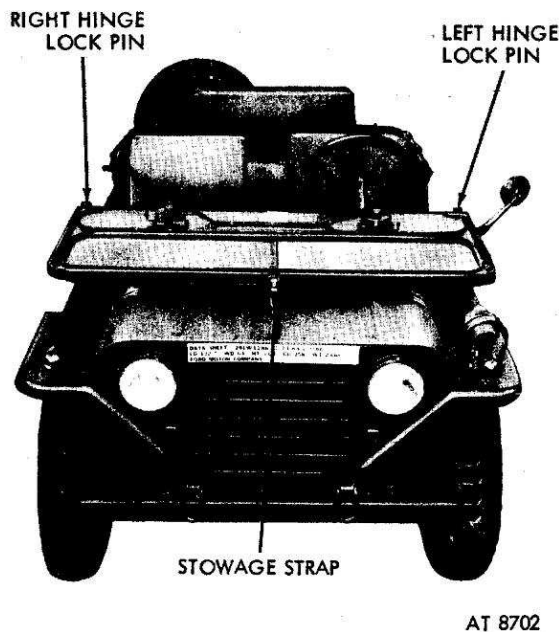

Figure 2-14. Erecting the windshield, stowage strap, hinge lock pins.
b. To erect the windshield, unbuckle the stowage strap, and remove right and left hinge lock pins (fig 2-14).